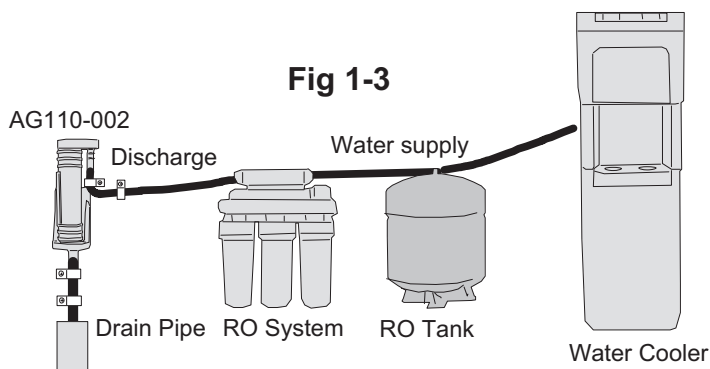

Fig 1-3
3. AG110-002 is a gravity flow device and must have an outlet poly tubing feeding directly to a drain without kinks or bends. The AG110-002 must be permanently connected to enable the discharge water to flow freely through the outlet tubing. (See FIG 1-3)